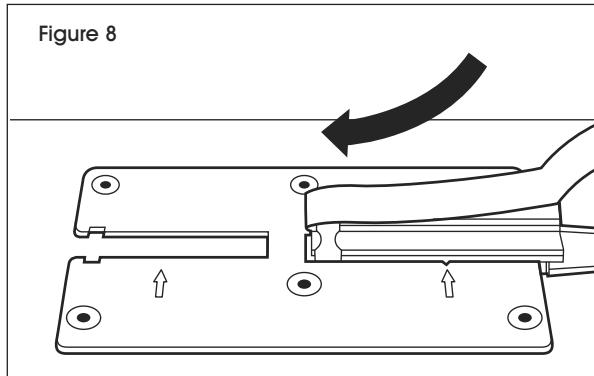

Figure 8
8. Snap right-hand nozzle into place on white nozzle plate. An audible "click" will be heard to confirm that the nozzle is engaged. (See Figure 8)